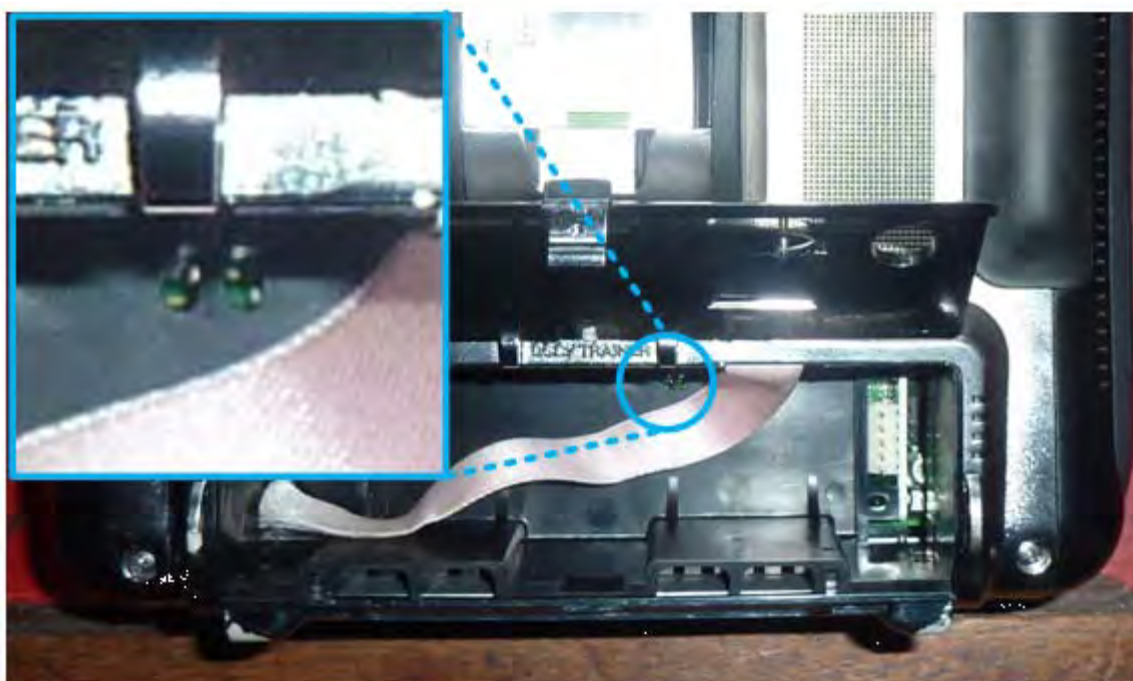

Figure 34 Access holes for hard resetting a 9Z
2. Open the now empty battery compartment and locate the two access holes shown in Figure 34.